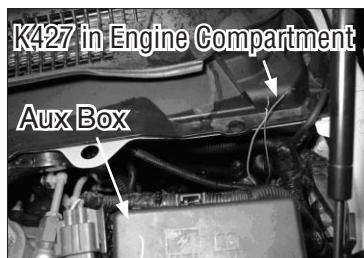

Figure 32
3. Location of K427 Wire (**Fig. 32**)